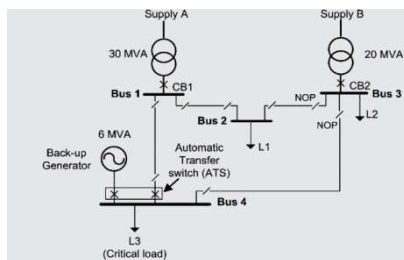

Fig.B3a
3. A section of a distribution network is shown in Figure B3a. Daily load profiles of each load are given in Figure B3b. All loads are assumed to be unity power factor: